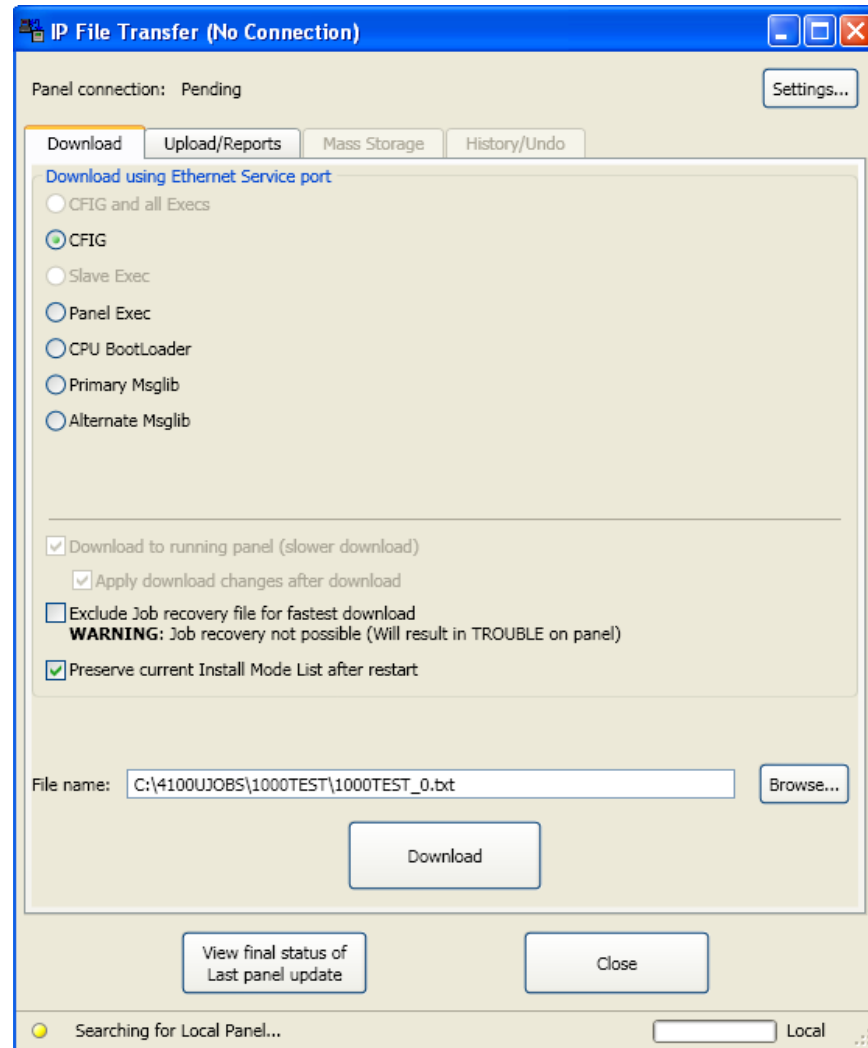

Figure 16-5. File Transfer Utility
1. Click on the Download tab near the top of the IP File Transfer window. See Figure 16-5.